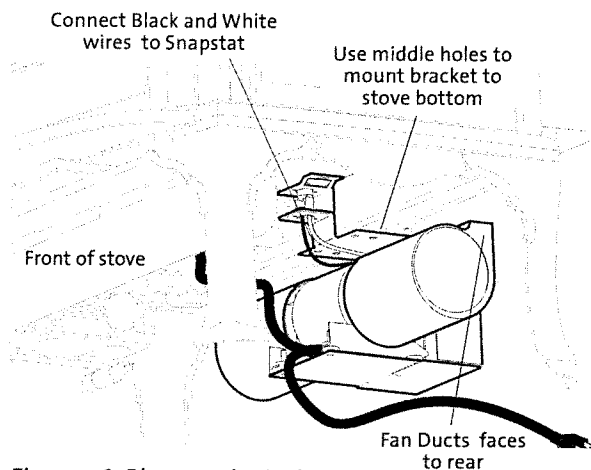

Figure 26. Blower orientation.
6. Position the blower with the **junction box to the REAR** of the stove and insert the two threaded studs on the blower through the rear-most holes in the blower bracket. Attach the blower to the bracket using the nuts and washers previously removed. See fig. 26.